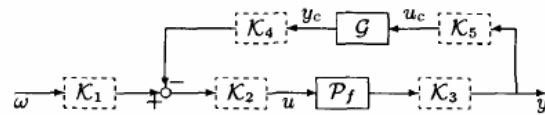

Figure 1: Considered System Configuration with Possible Control Mixer Modules (dash-boxes)
tem. Then the robust control mixer module (RCMM) design problem can be defined as: (1) Selecting a subset of the compensating systems \mathcal{K}_i ($i = 1, \dots, 5$) from Fig. 1, which can be different from the identity matrix, and denoting the selected subset by $\mathcal{K} \hat{=} \{\mathcal{K}_i\}$; Furthermore, (2) Designing the selected modules \mathcal{K}_i by solving the optimization problem